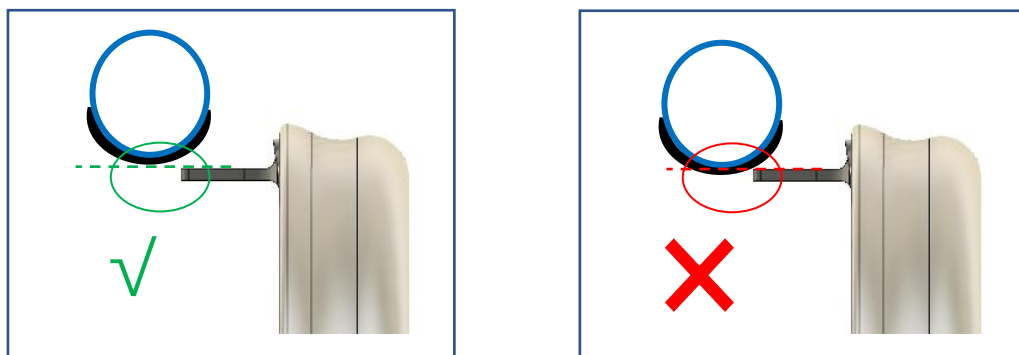

Figure 1: Checking for interference of the hand rim tabs
- a. Fit the hand rim to the wheel, ensure that all the tabs slide freely into position without any interference as shown in Figure 1. Should you require any force to position the hand rim, stop immediately and consult your authorized dealer.